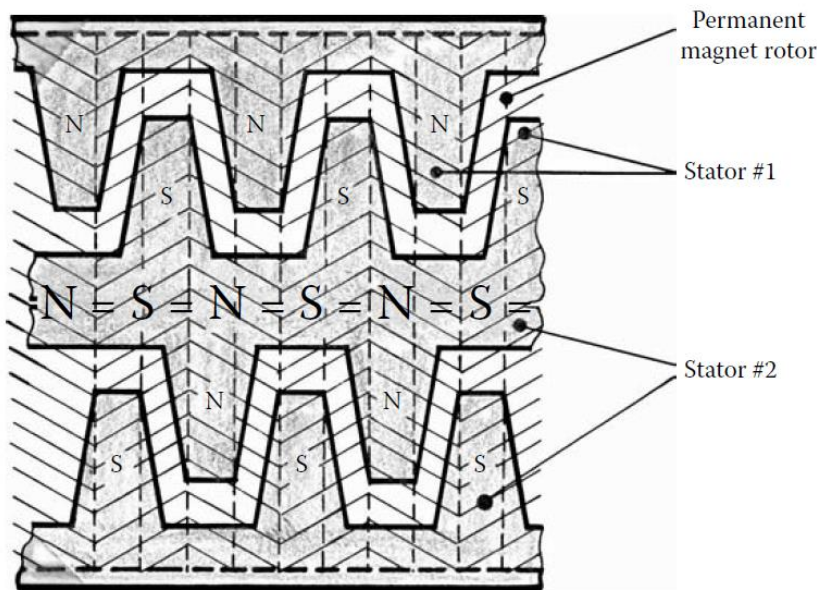

Fig. 3. Production of unidirectional torque energizing two stators.
- With only one stator, however, the rotor is as likely to turn backward as forward and so the **second stator** is introduced, physically displaced by 90 electrical degrees (**one fourth of the pole pitch**), as shown in Figure 3.